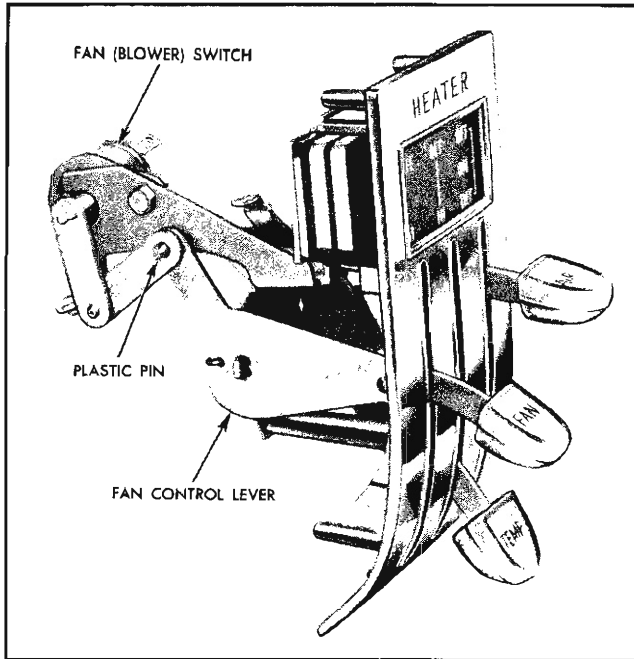

Fig. 12-9 Heater Control Fan (Blower) Linkage
4. Remove heater blower switch from control assembly (Figs. 12-9 and 12-10).